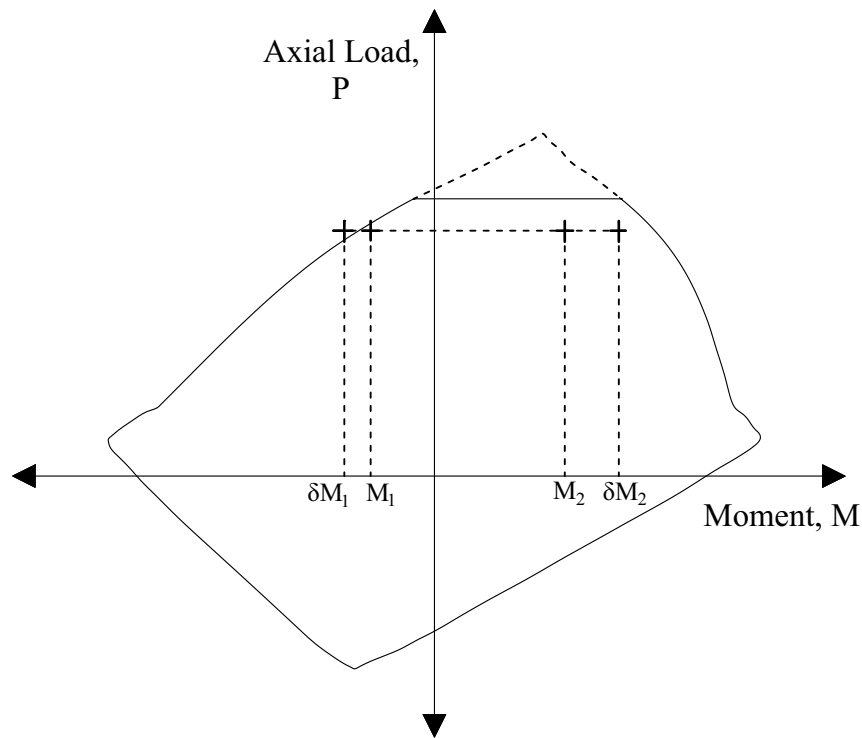

Figure 2-8 Case of unsymmetrical section bent in double curvature (M_1 and M_2 of different sign) with the smaller end moment, M_1 , governing the design
While design codes define moment M_2 as always positive and the sign of moment M_1 depending on single or double curvature bending⁴⁹, spColumn retains actual signs of moments M_1 and M_2 . This revision ensures proper comparison against negative and positive moment capacities of unsymmetrical sections (see Figure 2-8).
2. Moments at column ends, M_1 and M_2 , are calculated, where M_1 is the moment with the smaller absolute value and M_2 is the moment with the larger absolute value. For columns in nonsway frames, the end moments will be equal to the factored applied first order moment. For columns in sway frames, the end moments will be the moments M_1 and M_2 calculated in the procedure for moment magnification at ends of compression member. While design codes define moment M_2 as always positive and the sign of moment M_1 depending on single or double curvature bending⁵⁸, spColumn retains actual signs of moments M_1 and M_2 to ensure proper comparison of resulting magnified moments against negative and positive moment capacities of unsymmetrical sections (see Figure 2-8). This revised interpretation does not affect results of the moment magnification along length procedure because the procedure relies on the M_1/M_2 ratio. spColumn follows the code definition which assumes the ratio to be positive if the member is bent in single curvature and negative if bent in double curvature. If both moments are equal to zero, the program conservatively assumes the ratio of $M_1/M_2=1.0$.
11. The factored magnified moment along the length of a compression member, M_c , is the larger⁷⁰ of δM_2 and δM_{min} . The program also calculates moment M_c based on the smaller end moment, M_1 , to account for scenario when M_1 and M_2 are of different sign (double curvature bending). For an unsymmetrical section, the smaller moment, M_1 , may govern the design when the moment capacity on the negative side of the interaction diagram is smaller than the moment capacity on the positive side (see Figure 2-8).